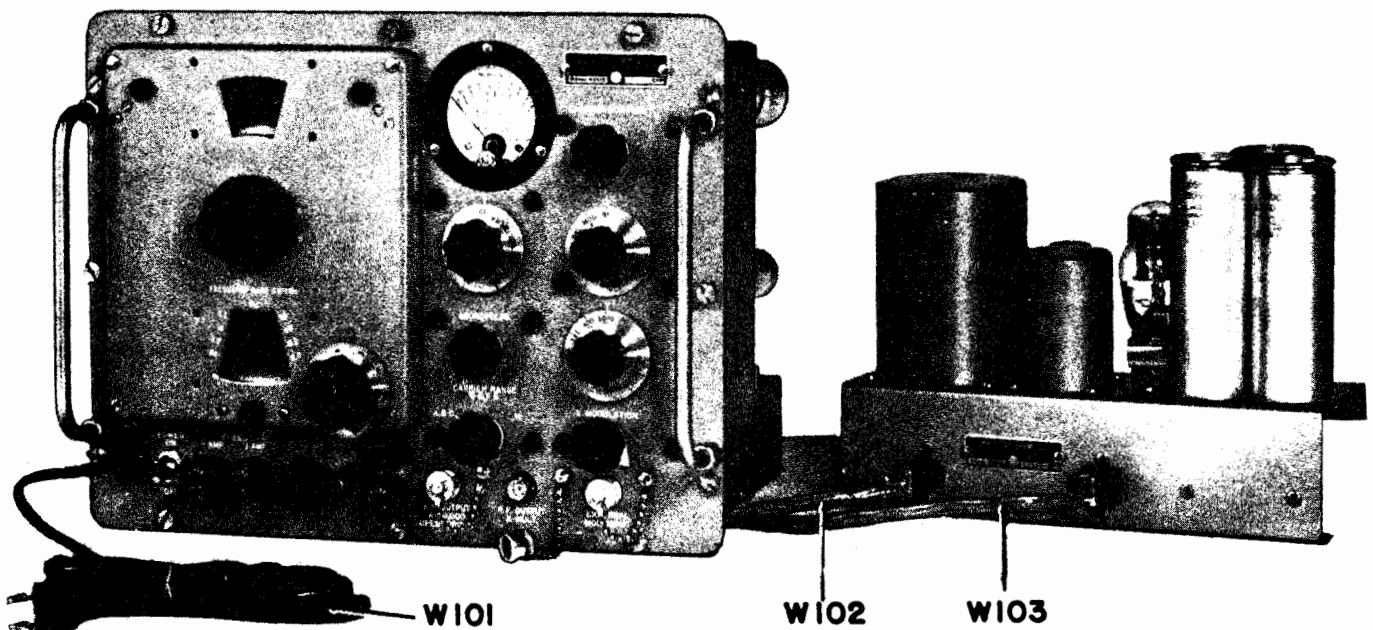

Figure 6-4. RF Signal Generator SG-44/URM-25 and Power Supply PP-562/URM-25 Connected Outside Cabinet for Testing
(2) With the signal generator and power supply sub-assemblies removed from the cabinet, the equipment can again be connected for use and testing by applying the following procedure (See figure 6-4).